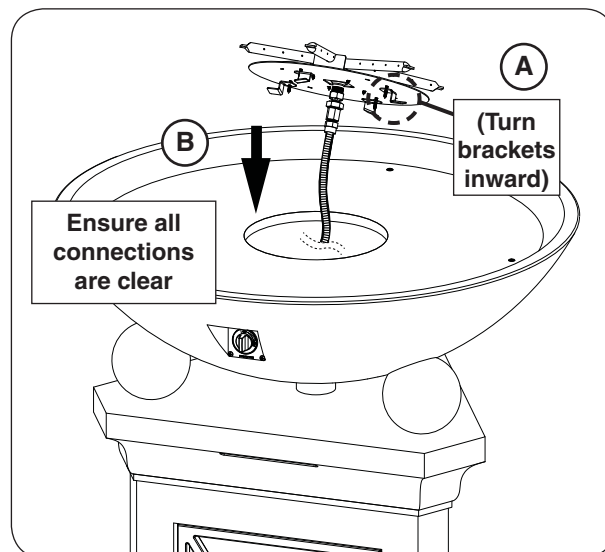

Fig. 32-1 Insert burner assembly
1. Ensure that the four burner brackets are turned inward, then insert the burner assembly (see Fig. 32-1, A-B).